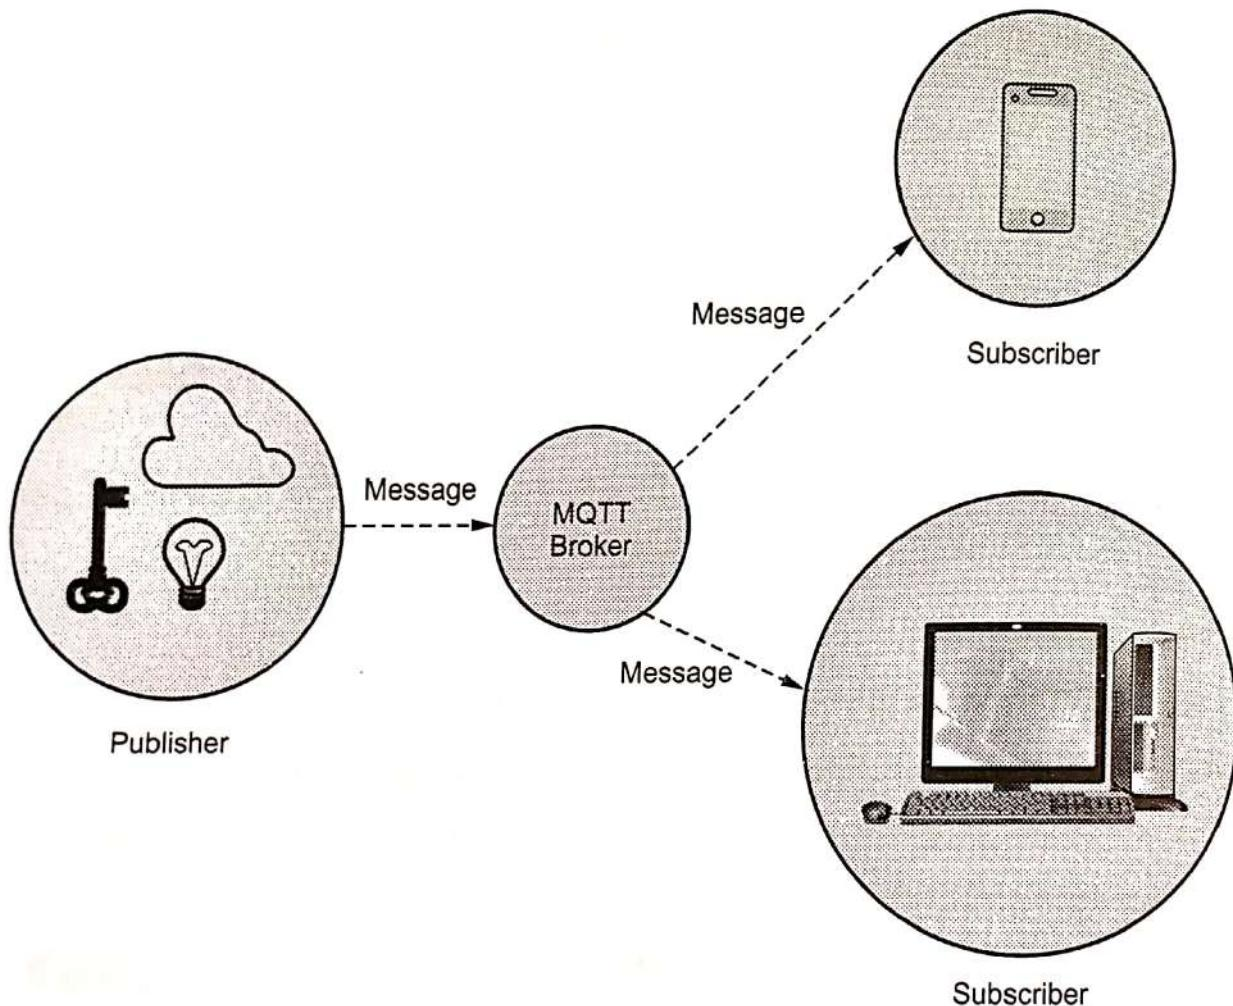

Fig. 3.1.3 MQTT publish/subscribe framework
- Fig. 3.1.3 shows MQTT publish/subscribe framework.